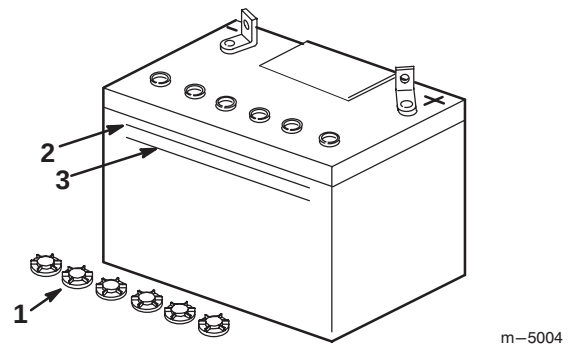

Figure 58
3. Remove the vent caps from the battery (Fig. 58).
4. Slowly pour electrolyte into each battery cell until the level is up to the upper line (Fig. 58) on the battery case.
5. Wait five to ten minutes after filling the battery cells. Add electrolyte, if necessary, until the electrolyte level is up to the upper line (Fig. 58) on the battery case.